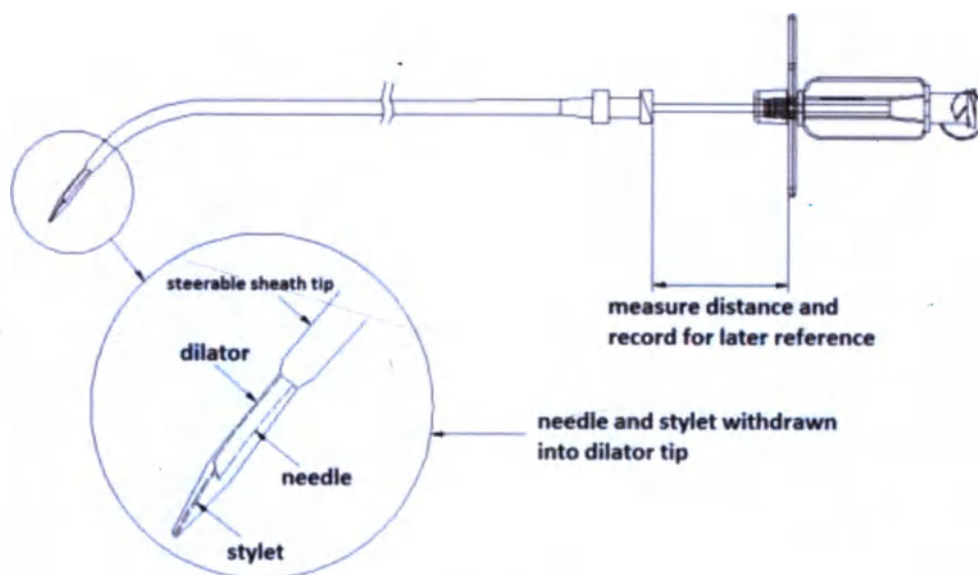

Fig. 2
- Withdraw the needle assembly until the tip of the stylet is just within the tip of the dilator. Measure the distance from the pointer flange and the dilator hub with length measuring tool. Record this measurement for use during the procedure. (See Fig.2. Magnification is 2.9).